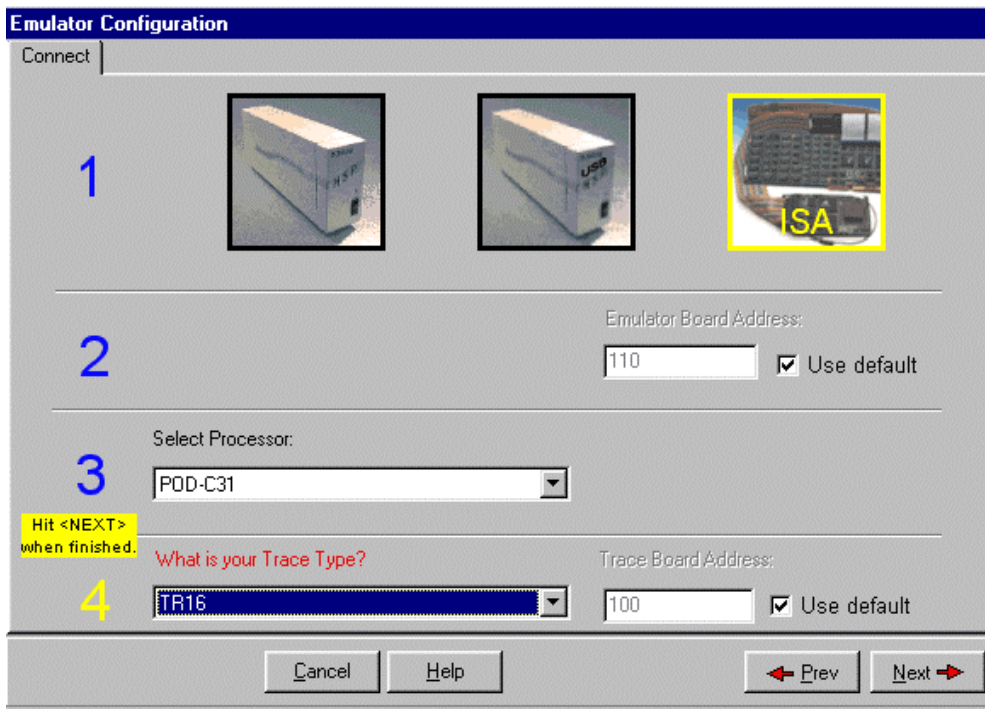

Figure 120. Emulator Configuration Connect Dialog Box
2. Select **Seehau51**. Then click **Config** to open the **Emulator Configuration Connect** dialog box (Figure 120).
As an example of setting up your configuration, the ISA communications interface is shown in Figure 120. The HSP communications interface is very similar, and the steps you do when using the HSP communications interface are almost identical.